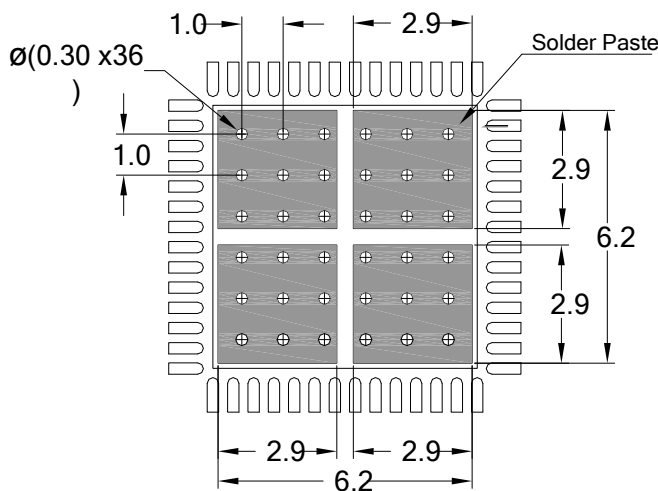

Figure 27: Top Solder Printing Mask (CS)
- ♦ If copper plating does not plug the vias, apply stencil print solder paste onto the printed circuit side. This provides sufficient solder paste, filling those vias to avoid the above mentioned voids. Figure 27 and Figure 28 show the associated, solder printing masks (CS & PS). The solder mask openings are lined-up in respect to the 6 x 6 thermal via array. Since large solder printing mask openings may result in poor release, the opening should be subdivided as shown in these figures.